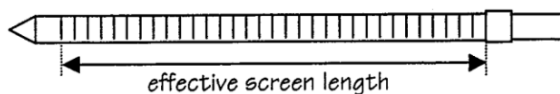

Figure 4. Measure effective screen length.
- Now that the well is assembled, measure the effective screen length (Fig. 4), correcting for sections covered by couplings, etc. For example, a slip-type drive point inserted into a cut piece of screened PVC pipe will eliminate ~3.3 cm of intake.